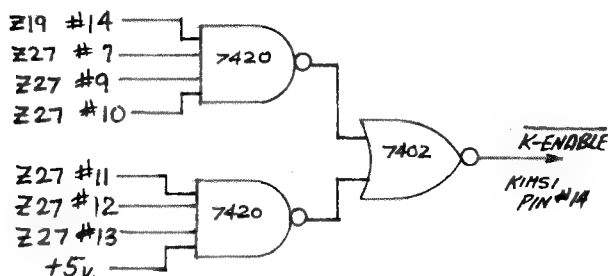

FIG.1. GENERATES NEW K-ENABLE SUITABLE FOR AIM MEMORY MAP. SEE ALSO KIMSI MANUAL PAGE 44 (3) FIGURE 'C'.
Next, to accommodate AIM's memory map, we have to create a new K-enable. This is explained on page A4(2) of the KIMSI manual, but the general idea is to tell the KIMSI to turn itself off when the proc. is "talking" to a device on it's own board. I used the circuit in fig. 1 on a small piece of breadboard mounted on the AIM. This, I thought, was better than running 8 lines to the KIMSI prototype area. As explained in the KIMSI manual. The KIMSI decoding circuitry has to be disabled by cutting the "V" shaped run under the board at Z11, pin 11.